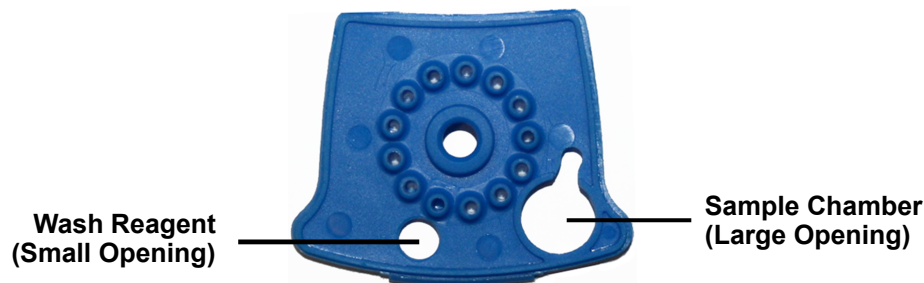

Figure 1. Xpert BCR-ABL Ultra p190 Cartridge (Top View)
3. Lift the cartridge lid and transfer the entire contents of the Wash Reagent (1) ampoule to the Wash Reagent Chamber (small opening). See Figure 1.
4. Pipette the entire contents of the prepared specimen into the Sample Chamber (large opening). See Figure 1.